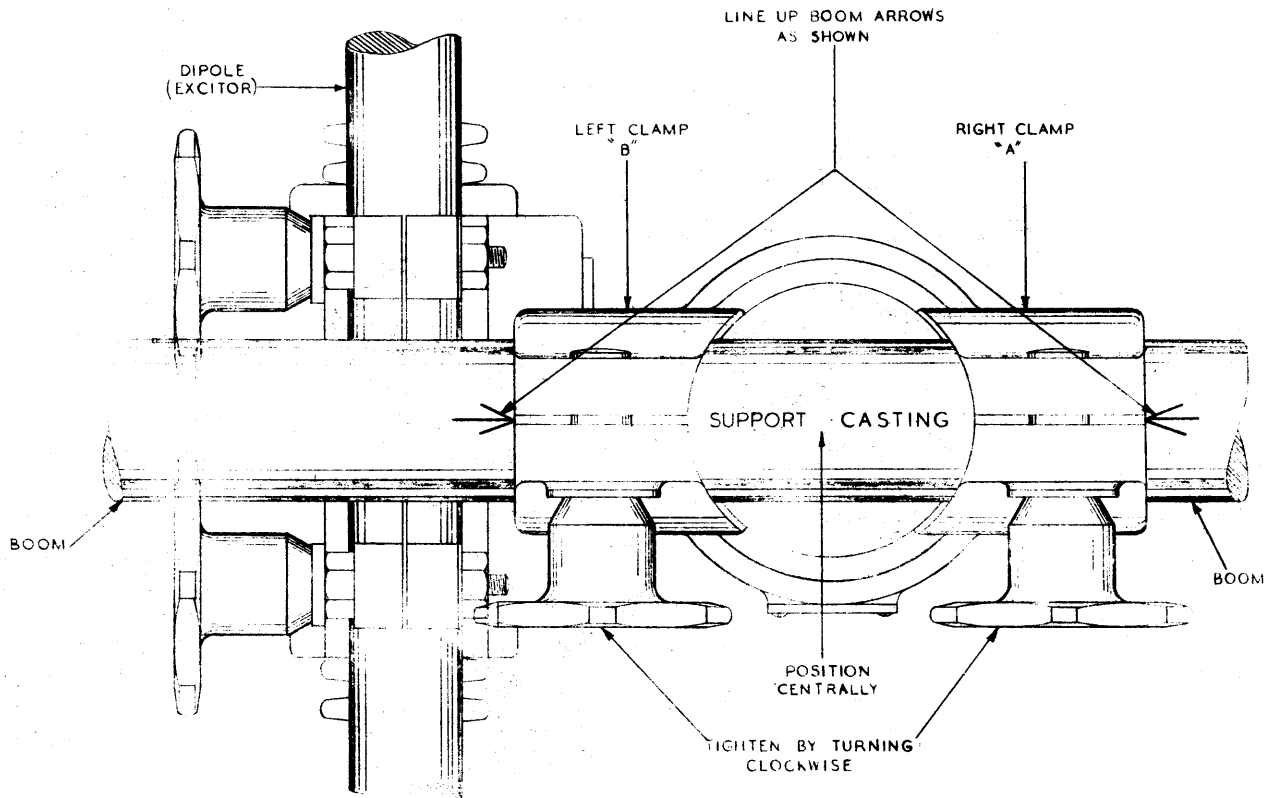

FIG 6 FITTING THE BOOM TO SUPPORT MOUNTING
(3) Fitting the Spacing Boom to the Support Mounting (Fig. 6)
- (b) Holding the boom with the " > SUPPORT CASTING < " sign facing upright, engage the spigot on the left-hand end of the boom in the fluting of the right-hand clamp channel "A" and continue the passage of the boom through the second (left-hand) clamp channel "B" until the " > SUPPORT CASTING < " sign is positioned centrally between the two clamps as shown in Fig. 6.